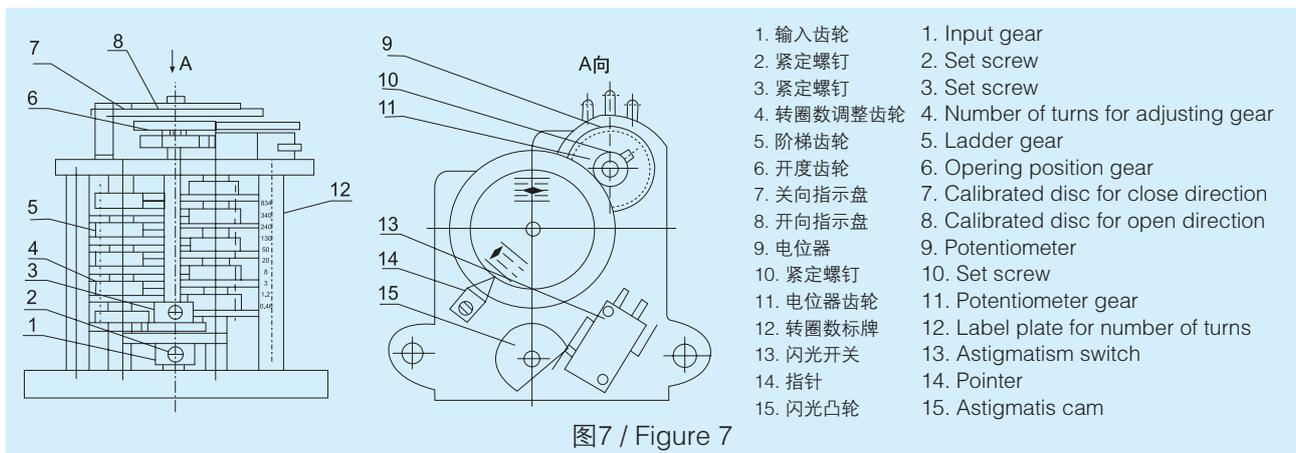

图7 / Figure 7
为全系列通用部件，其结构见图 7。输入齿轮由计数器个位齿轮带动，经减速后，指示盘随阀门的开关过程同时转动，以指示阀门的开启或关闭。电位器的轴和指示盘同步转动，供远传开度指示用，移动转圈数调整齿轮可以改变转圈数。开度指示器内设一微动开关和凸轮，当电动执行机构运转时，旋转凸轮周期性地使微动开关动作，其频率为输出轴转动一圈动作一次或二次，可供闪光信号等使用。
It is the complete line of general purpose part, and we can refer to Figure 7 for its structure. Input gear is driven by the units order gear of counter, and after speed reduction, the indicator disc will rotate together with the opening and closing process of the valve to indicate the opening or closing of the valve. The axis of the potentiometer and indicator disc turns synchronously for the remote transmitting opening indication, and move the aligning gear for number of turning can change the number of turning. Inside the opening indicator, there are a sensitive switch and cam, and when the electric actuator runs, the rotating cam will make the sensitive switch actuate periodically with the frequency of working once or twice when output axis rotates one circle, which can be used for flashing signal etc.
6.3 开度指示器的调整(参见图7) The adjustment of opening position indicator (refer to Figure 7)